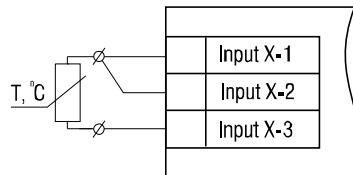

Fig. 4.7 RTD sensor wiring
- Disabled inputs (parameter „Sensor type“ = OFF) should be short-circuited according to Fig. 4.7.